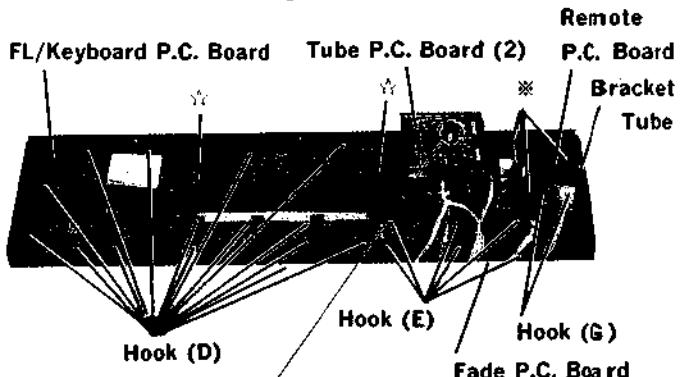
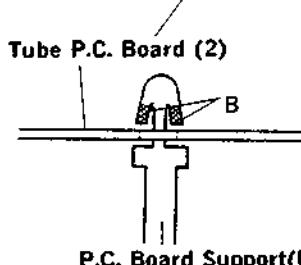

Figure 10 <10図>
Figure 11 <11図>
- (1) After removing the Front Panel, remove the two screws marked "☆" as in Figure 10.
- (2) Remove the hook (D) in the fifteen places as shown in Figure 10.
- (3) Disconnect the 6P connector connected to the Fade P.C. Board.
- (4) The FL/Keyboard P.C. Board can now be removed.
- (1) After removing the Front Panel, remove the hook (E) in the six places as shown in Figure 10.
- (2) Disconnect the 6P connector connected to the FL/Keyboard P.C. Board.
- (3) The Fade P.C. Board can now be removed.
- (1) After removing the Front Panel, hold down on "B" (see Fig. 11) and remove the P.C. Board support (F) as shown in Figure 10.
- (2) Disconnect the two 6P connectors connected to the Tube P.C. Board (2).
- (3) The Tube P.C. Board (2) can now be removed.
- (1) After removing the Front Panel and Tube P.C. Board (2), remove the four screws marked "*" and the Tube retainer as shown in Figure 10.
- (1) After removing the Tube retainer, remove the hook (G) in the two places as shown in Figure 10.
- (2) The Remote P.C. Board can now be removed.